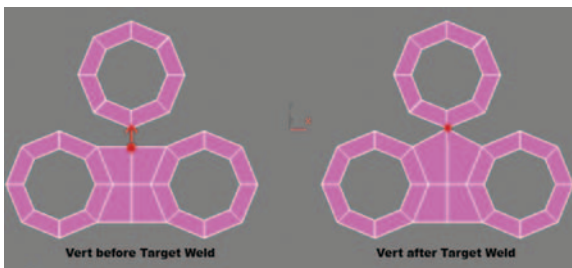

Figure 5.4 Vertex before and after Target Weld.
5. In Vertex mode, Target Weld the vert at the top of the newly created bridge to the bottom vert of the middle tube (Figure 5.4).